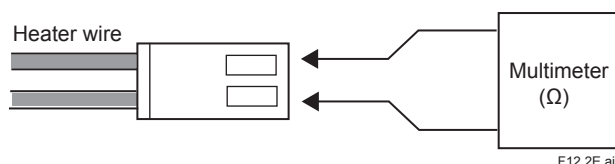

Figure 12.5
- (1) Turn off the power to the analyzer.
- (2) Remove the probe from the analyzer. Also remove all the connectors between the converter and probe. Measure the resistance of the heater wire (yellow wire) from the probe as indicated in Figure 12.5. The heater assembly is normal if the resistance is lower than about 90Ω. If the resistance is higher than that value, the heater assembly may be defective. In this case, replace the heater assembly (refer to Section 11.1.3, "Replacement of the Heater Assembly").